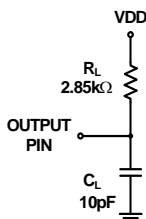

FIGURE 4. EQUIVALENT LOAD CIRCUIT
11. During characterization, $t_{DISABLE}$ is measured from the release point with a 10pF load (see Figure 4) and the equivalent timing using the AD7440/450A loading (25pF) is calculated.